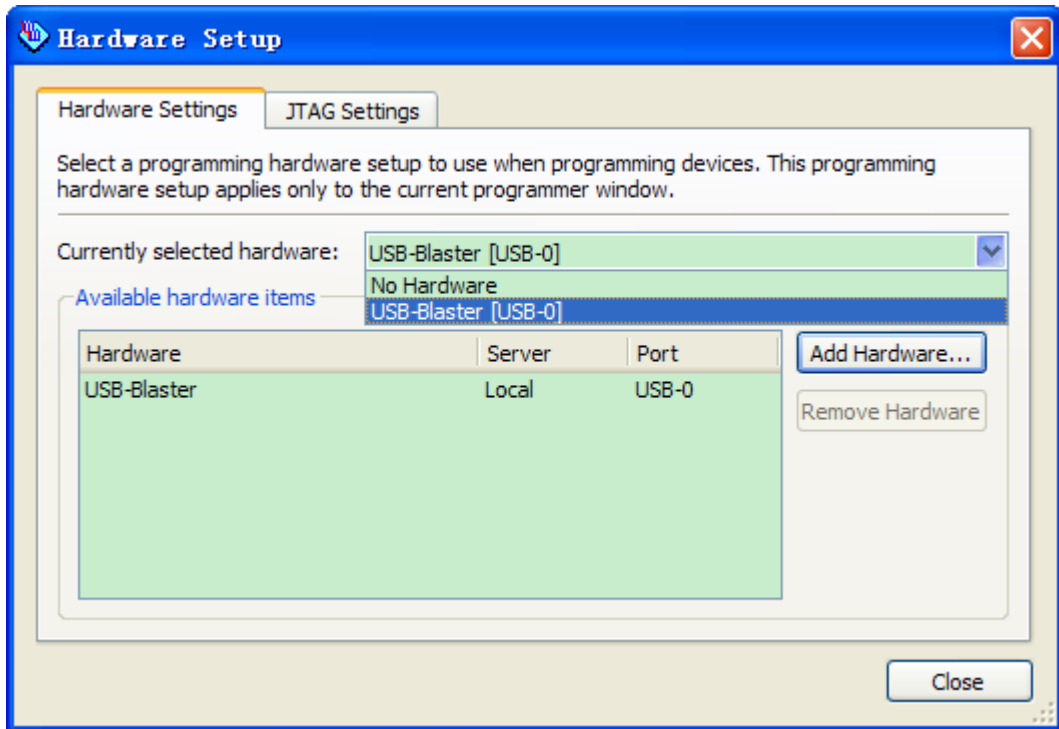

Figure 6-47 Hardware Setting
3. If it is not already turned on, turn on the USB-Blaster [USB-0] option under currently selected hardware. See Figure 6-47.